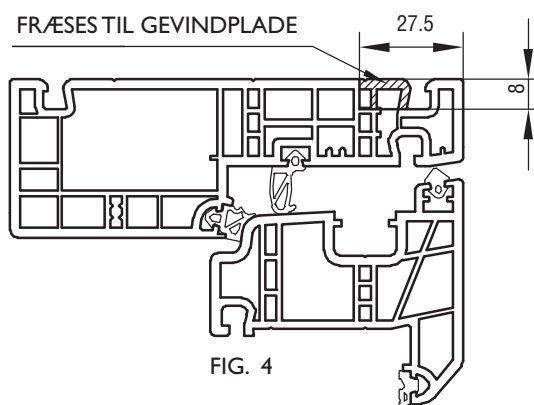

FIG. 4
VED STORE DØRE KAN DER MED FORDEL ANVENDES GEVINDPLADER IPA NR. 60821-10211. DISSE SKAL INDFRÆSES I KARMEN BAG HÆNGSLERNE OG DER SKAL ANVENDES M5 SKRUER I DE 2 GEVIND HULLER, SE FIG. 4 OG 5.
2. DER SKAL BORES ET FRIHUL TIL GLIDEREN I OVERKARMEN, SE FIG. 4